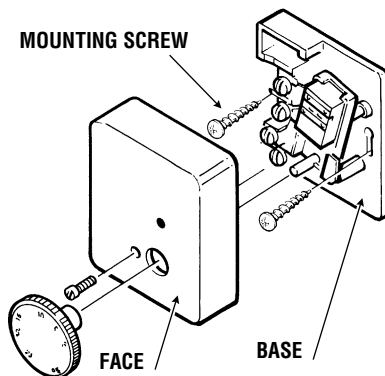

Figure 3-27 Thermostat Detail
3. Remove the adjusting knob and face cover. Mark and drill mounting holes. Mount thermostat using the screws provided. (Figure 3-27)
4. Remove the adjusting knob and face cover. Mark and drill mounting holes. Mount thermostat using the screws provided. (Figure 3-27)